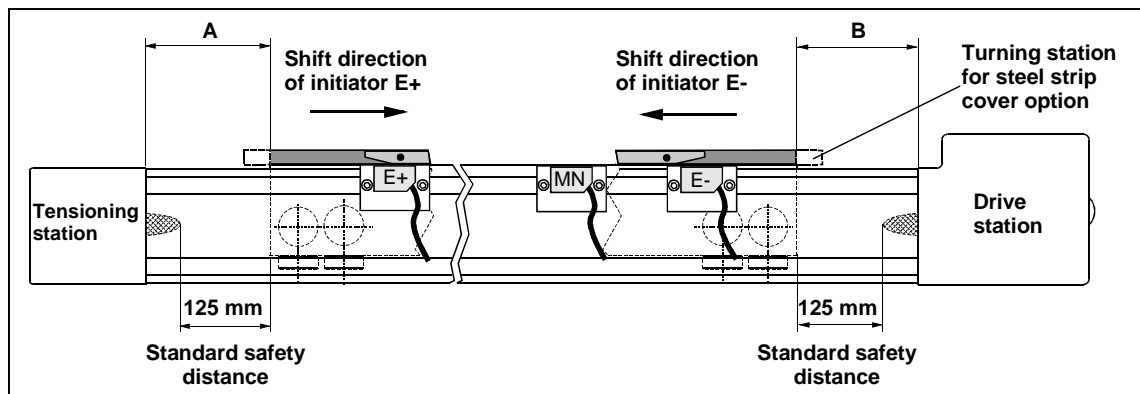

Figure 4: External initiators: setting up end limits and safety distances
2. Arrange the limit switches according to the sequence given in Figure 4.
3. **E-:** Bring the carriage with the load attachment plate into the position as in Figure 4 and Table 1 (dimension B). Move limit switch **E-** from the drive station in the direction of the tensioning station until it operates
4. **E+:** Bring the carriage with the load attachment plate into the position as in Figure 4 and Table 1 (dimension A). Move limit switch **E+** from the tension station in the direction of the drive station until it operates.